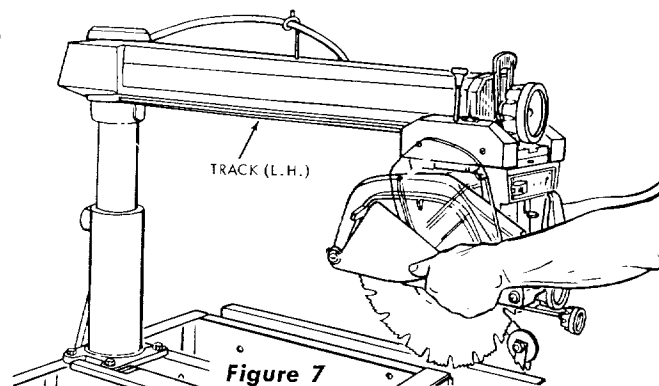

Figure 7
- Grasp the carriage with both hands (figure 7) and carefully start the carriage bearings onto the tracks on the radial arm. Be sure to hold the assembly parallel to the arm as it is carefully slipped into position until all four bearings are on the tracks in order to prevent excessive strain on the bearings and tracks.